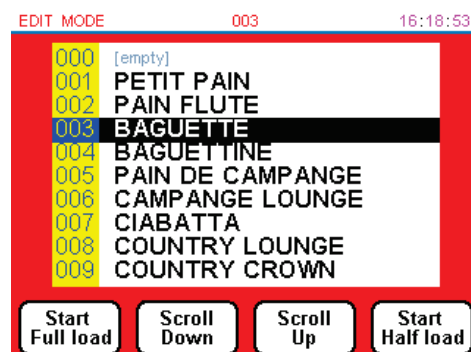

Fig 9
3. Enter pass code (default 111111). Fig 9 will appear.